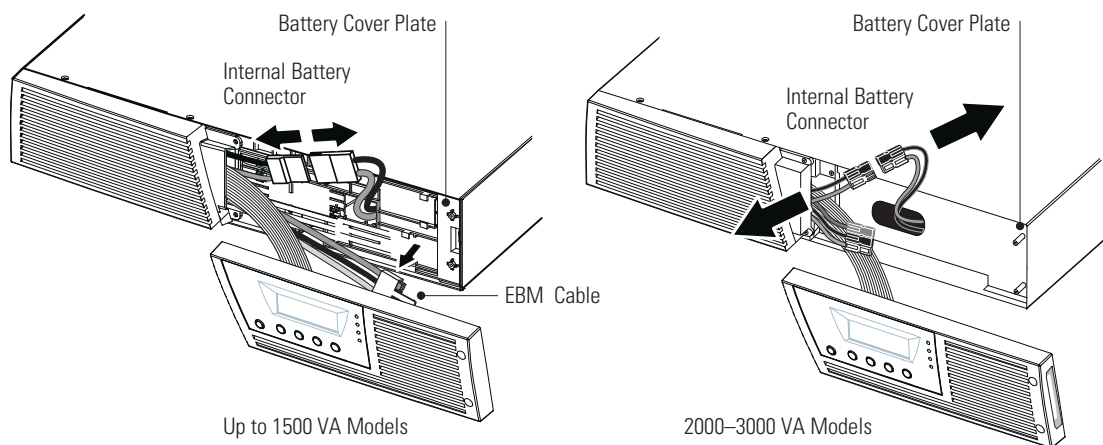
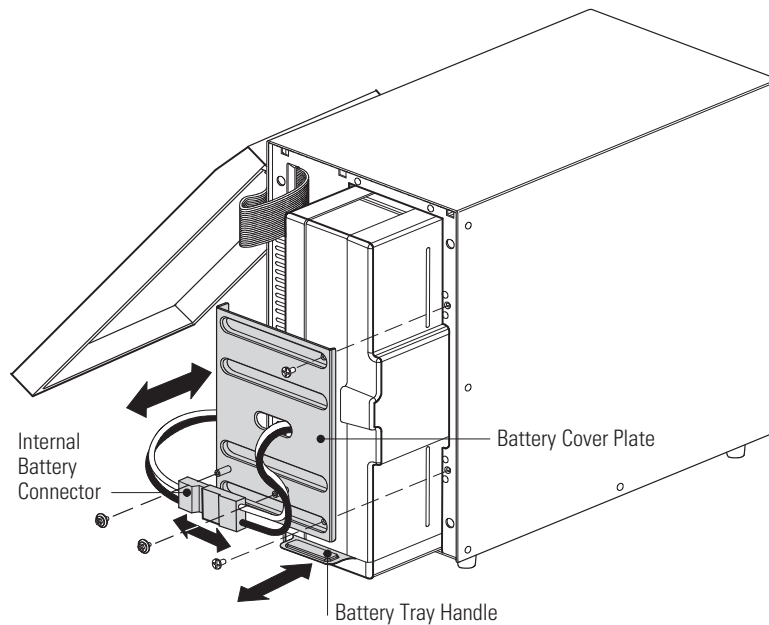

Figure 24. Disconnecting the UPS Internal Batteries (Shown without EBMs)
Figure 26. Replacing the UPS Internal Batteries
NOTE If the UPS requires any type of transportation, verify that the UPS is unplugged and turned off and then disconnect the UPS internal battery connector (see Figure 24 on page 49 for rackmount models or Figure 26 on page 51 for tower models).
2. Disconnect the internal battery connector (see Figure 24).
3. **Up to 1500 VA models only.** If the EBM cable is not connected to an EBM, unclip the EBM cable and move it to the left out of the way (see Figure 24).
4. Grasp an edge of the battery cover plate and pull it forward gently. Remove and retain the battery cover plate. See Figure 24 for the location of the battery cover plate.
9. **Up to 1500 VA models only.** If the EBM cable is not connected to an EBM, clip the EBM cable back into its holder on the battery cover plate. See Figure 24.
2. Remove and retain the two screws holding the internal battery connector. Disconnect the internal battery connector. See Figure 26.